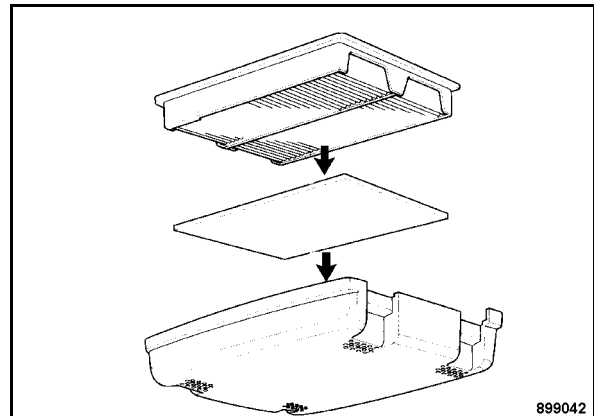

Fig. 72
- Lay the foam insert into the air filter cartridge into the air filter housing cover and then install the air filter cartridge (Fig. 72).